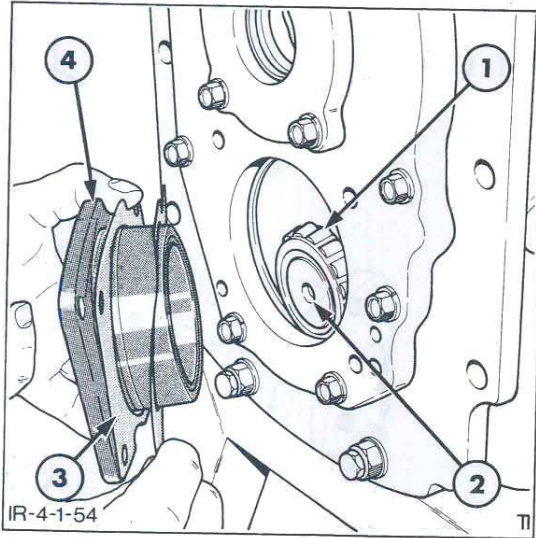

Figure 55
10. If the pull required to rotate the countershaft is outside the specified limits, see "Specifications" – Chapter 3, remove the rear cover and bearing cap and add or delete shims as required Figure 55 and repeat the procedure.